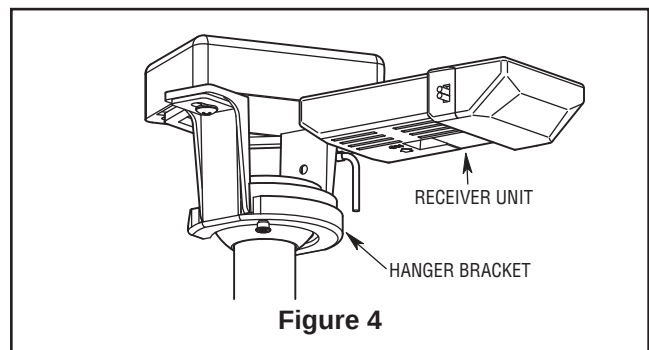

Figure 4
- ☐ 4. Route wires through motor coupling cover, canopy screw cover and canopy (Figure 4).
- ☐ 3. Slide the receiver unit into the open end of the hanger bracket (Figure 4).
- ☐ 4. Insert light bulb and twist until light bulb terminals have seated properly in the GU10 socket. (Figure 4)
- ☐ 4. If airflow is desired in the opposite direction, turn the fan off and wait for the blades to stop turning. Slide the reverse switch on top of the motor assembly to the opposite position and turn fan on again (Figure 4).